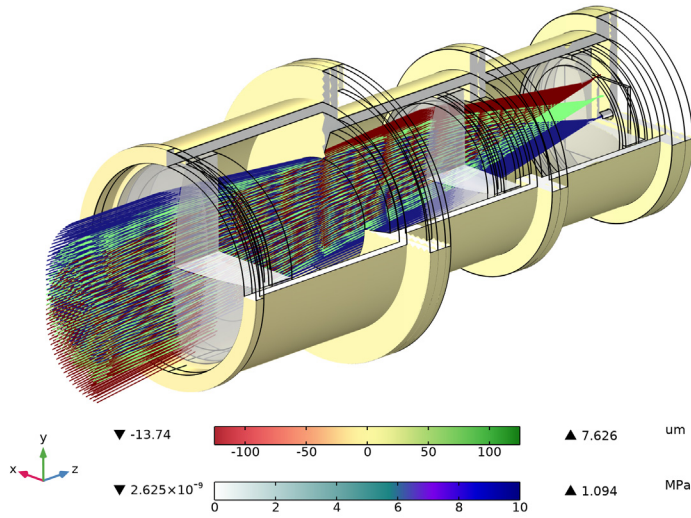

Figure 8: In this ray trace, the displacement field is shown together with the von Mises stress for a temperature  $T = 25^{\circ}\text{C}$ .
- 8 In the **Displacement** toolbar, click  **Plot**. Compare to Figure 8.